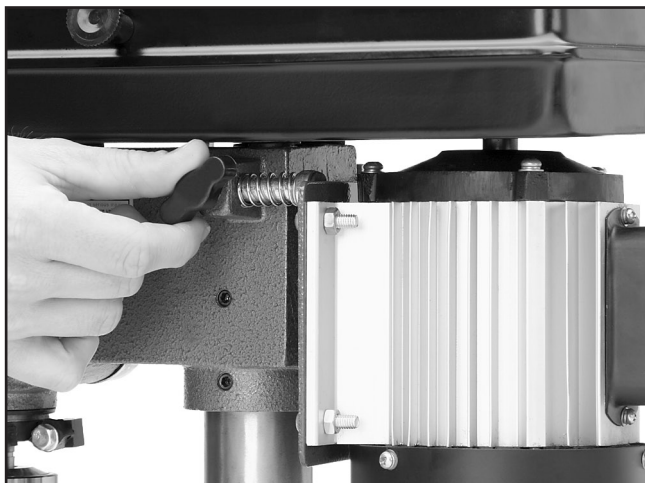

Figure 15. Loosening lock knob.
2. Loosen the lock knob (shown in **Figure 15**) to take tension off of the V-belt.